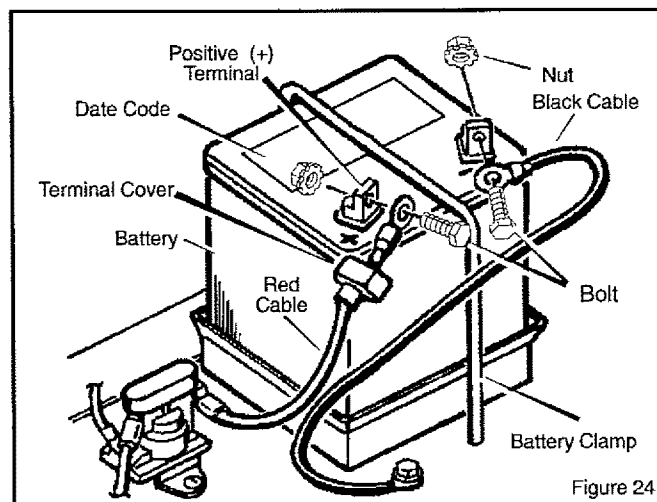

Figure 24
1. Remove the **black cable** from the negative (-) terminal (Figure 24)